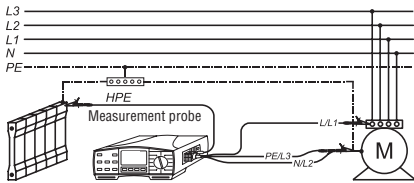

Figure 71: Test leads connection to measurement probe
- ▶ Connect test leads to UUT in accordance with Figure 71. Furthermore, connect measurement probe to connection socket C2/P (15). If desired, this connection information can directly be retrieved on the measurement instrument using the key 'HELP'. Repeated pressing of the key 'HELP' indicates the various options for connection.